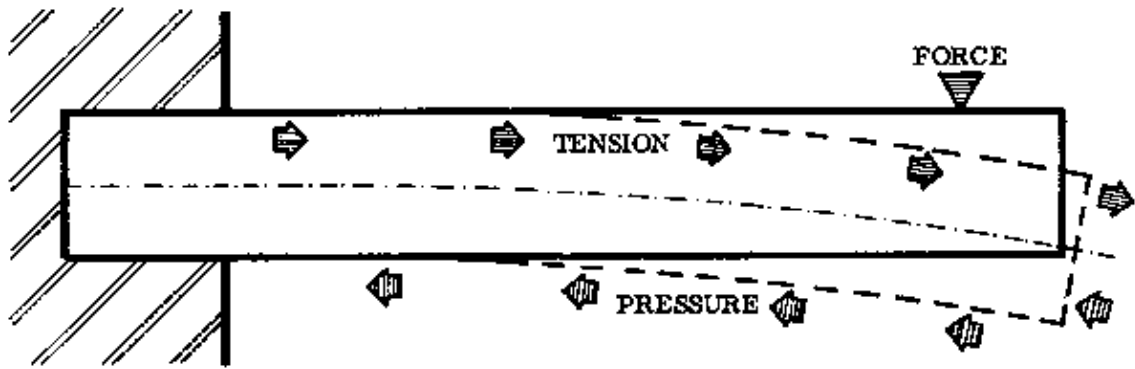
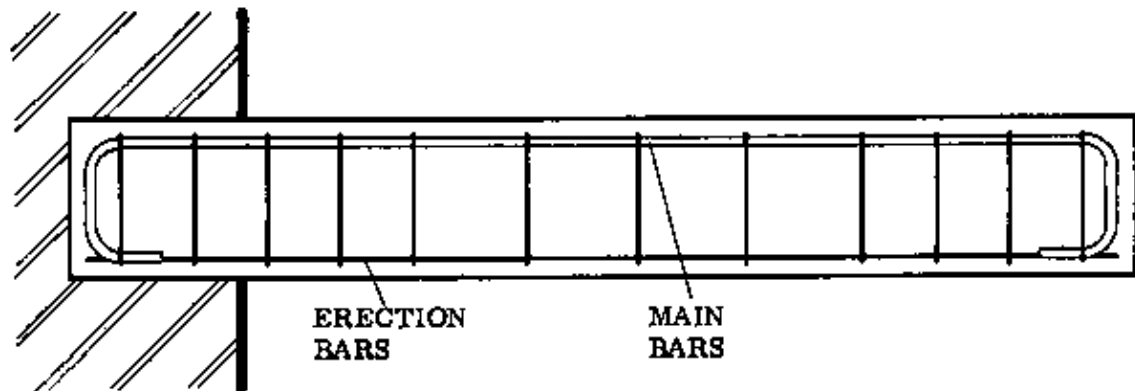

Fig. 2a
Fig. 2b
- All circular bars with smooth surfaces must have U-shaped end hooks (see Figs. 2a & 3a). For ribbed bars and tensor bars L-shaped hooks are sufficient (Figs. 2b & 3b).
Fig. 2 shows another situation, where a beam is supported from one side only. This is called a cantilever beam. The unsupported end will tend to bend as shown. Here the main bars are on top to counteract the tension in the top surface (Fig. 2b).